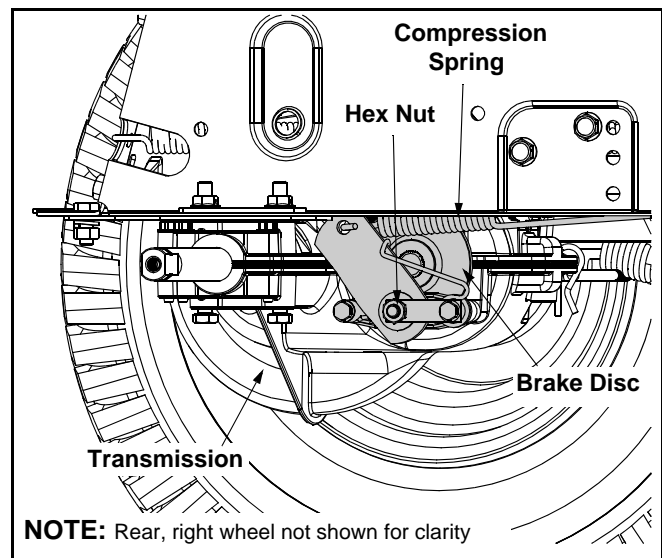

Figure 16
- Looking at the transmission from the right side of the tractor, locate the compression spring and brake disc. See Figure 16.
- Loosen, but do NOT remove, the hex nut found on the right side of the brake assembly. See Figure 16.